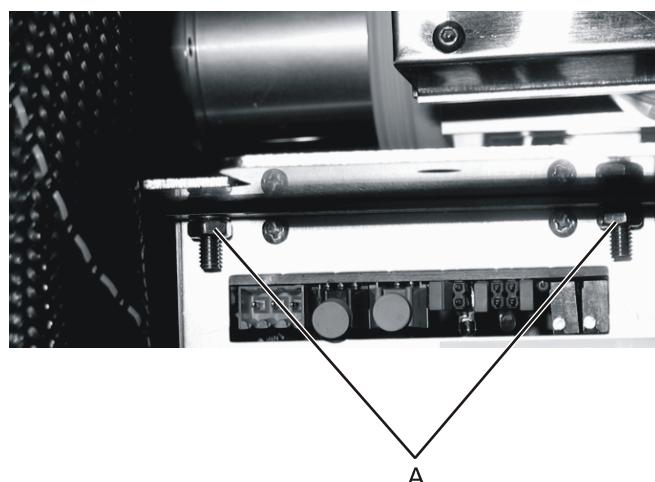

Figure 90: Unscrewing the gas purifier power supply
5. Use the 7 mm wrench to unscrew the gas purifier power supply (see Figure 90, A).